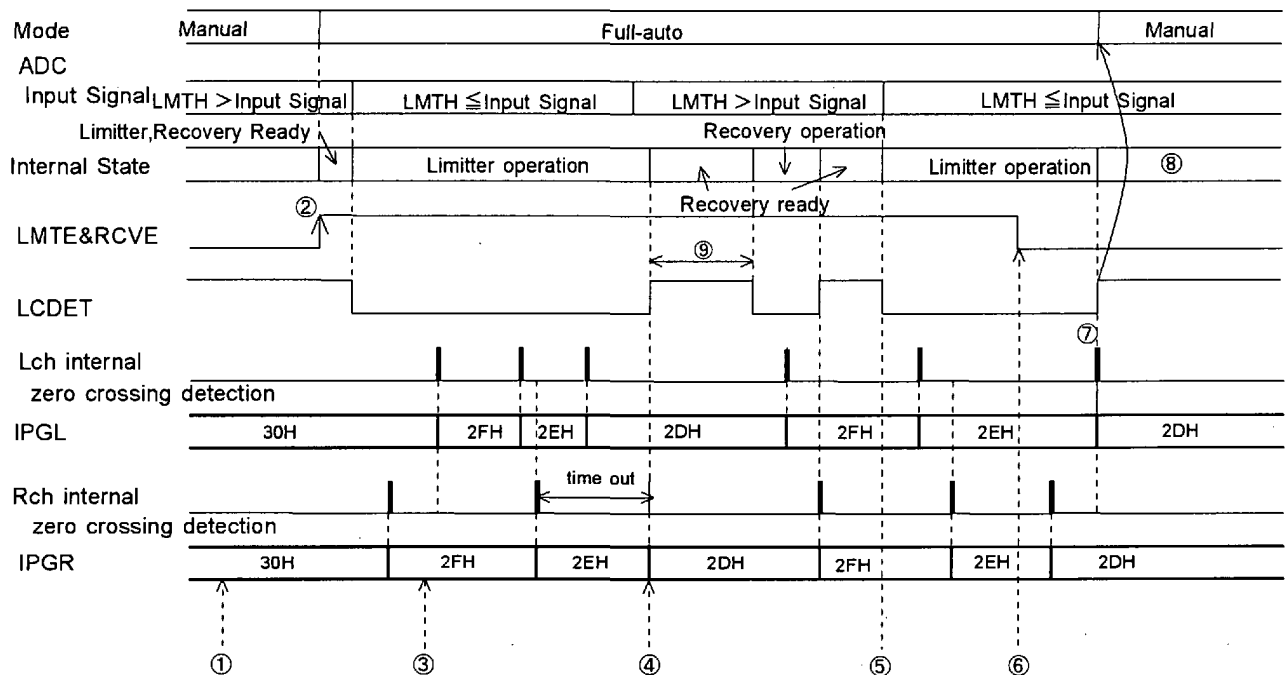

Figure 9 . Control example of full-auto mode operation (LMAT=RATT: 1 step, ZENM=ZELM="1")
- ② WR(LMTE=RCVE="1"): After the registers concerned in the auto limiter operation is set up and confirming the zero crossing flags(ZFIPL, ZFIPR)="1", LMTH and RCVE are set "1".
- ③ WR(IPGA="31H"):As the operation is full-auto mode, writing by uP is ignored.
- ④ The ready of recovery starts.
- ⑤ As the input signal of ADC exceeds LMTH, the recovery operation (in the figure, recovery ready) is discontinued and the limiter operation starts.
- ⑥ WR(LMTE=RCVE="0"):The full-auto mode operation is completed.
- ⑦ In Figure 9 , since "0" is written to LMTE& RCVE during the ATT operation, the operation changes to the manual mode after completing ATT operation. After confirming LCDDET="1", it is possible to change the each register set-up. If LMTE&RCVE are set "0" during the full-auto mode operation, LCDDET becomes "1" after the max "1" ATT/GAIN operation is completed by internal state.
- ⑧ In this case, the input signal of ADC exceeds LMTH, the auto limiter does not operate because of LMTE=RCVE="0".
- ⑨ After the limiter operation is completed, the AK4516A waits for the time set by WTM1-0. If the input signal does not exceed (LMTH - 2dB), the recovery operation is executed. After the waiting time finishes the next waiting time starts immediately. In recovery ready, the waiting timer is reset under the condition of (LMTH - 2dB) ≤ Input Signal < LMTH. And the timer starts under the condition of (LMTH - 2dB) > Input Signal.